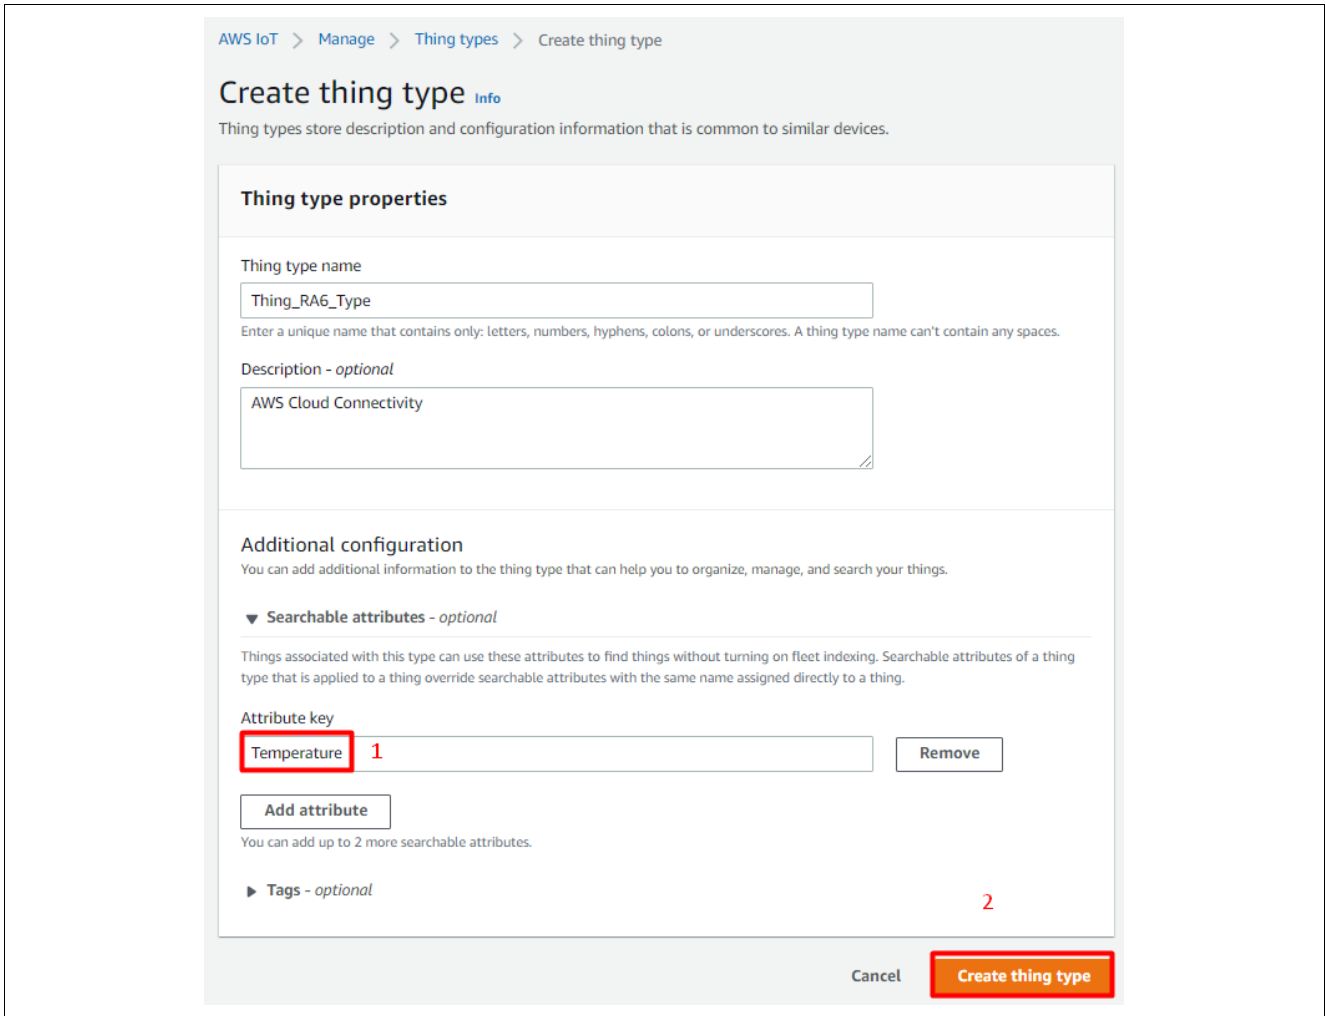

Figure 12. Create a Thing type
6. The newly created thing type will look as shown in Figure 12. This Thing type name is being used while creating the thing in the next section 6.4.2.3.